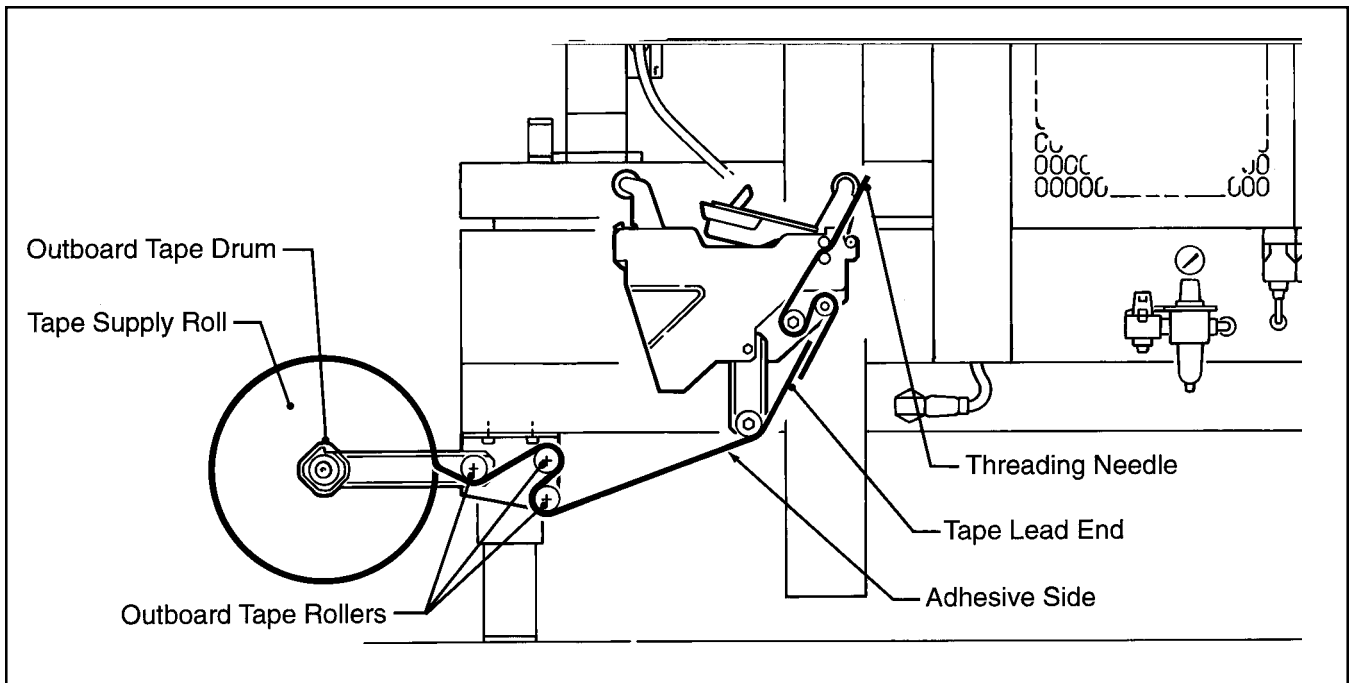

Figure 3-5 – Tape Threading With Alternate Outboard Tape Drum
4. Place tape roll on outboard tape drum with adhesive side down on lead end of tape. (Seat tape roll fully against back flange of tape drum.) Thread tape through outboard tape rollers as shown in Figure 3-5 and adhere tape lead end to lower end of threading needle.